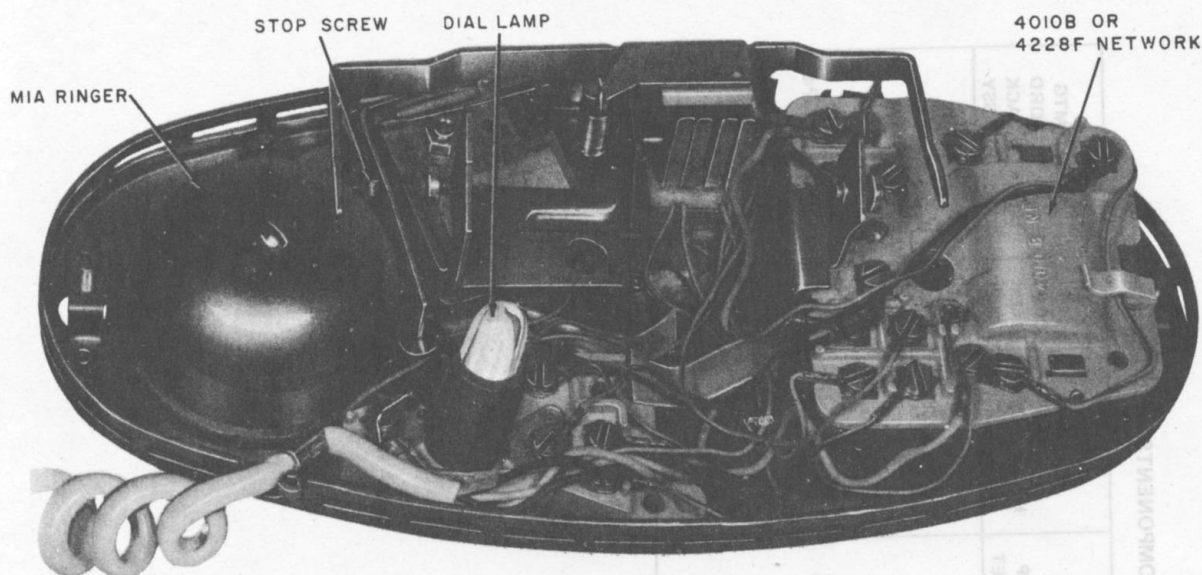

Fig. 3—702-Type Telephone Set, Dial and Housing Removed
2.06 The 702B telephone set (Fig. 3) is similar to the 701B which it replaces, except that an internal ringer (M1A) is provided.